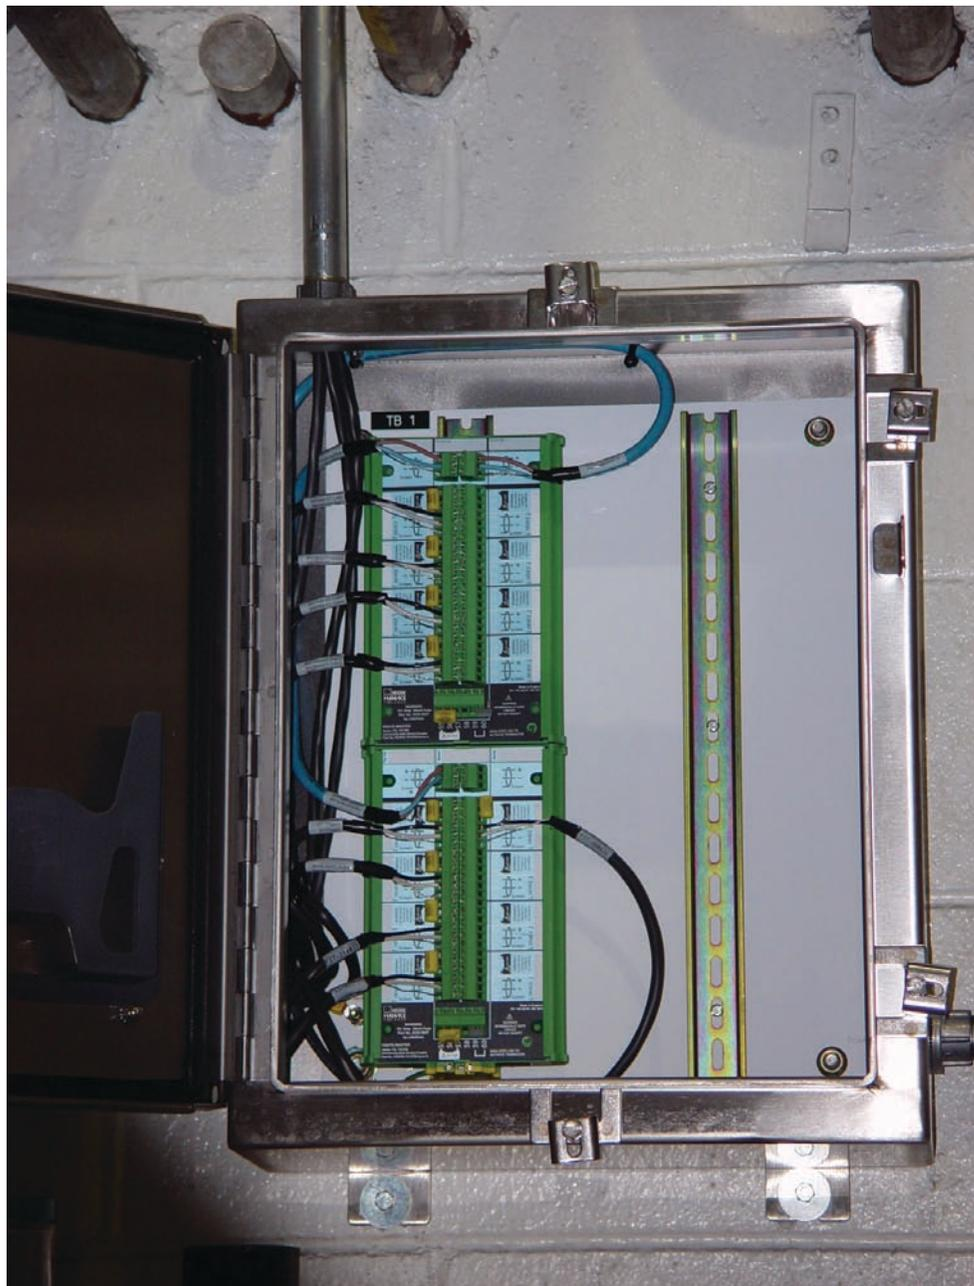
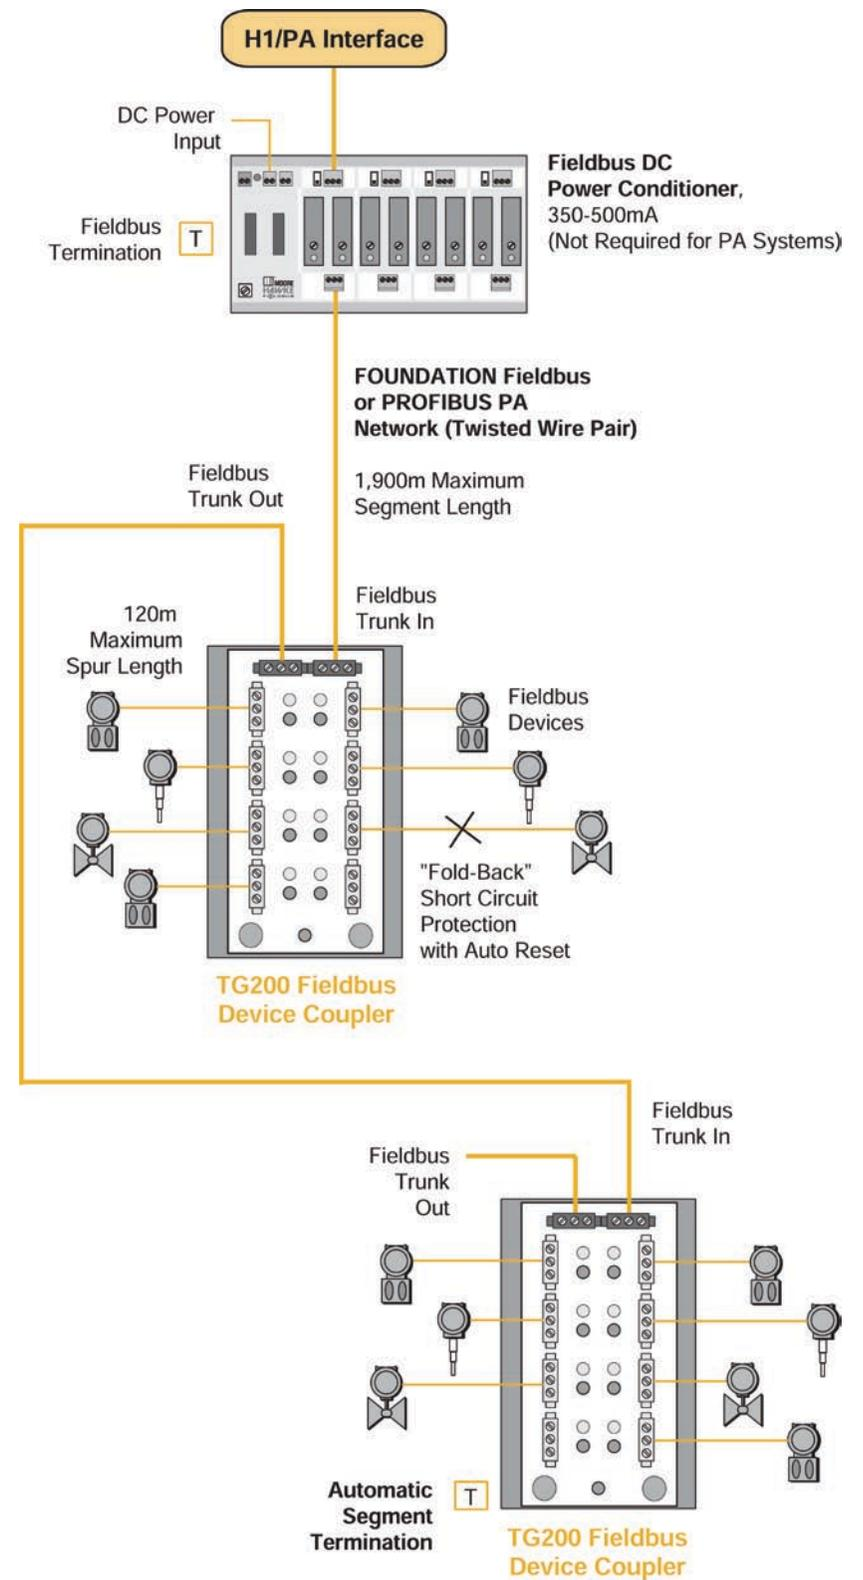

Figure 3: A device coupler provides short circuit protection on each spur. Some device couplers have automatic segment termination.
Figure 4: Terminators (square T boxes) must be turned on at the beginning and the end of each segment.
Most device couplers (Figure 3) use manual on/off DIP switches to terminate couplers. In a segment, the last device coupler should contain the terminator (Figure 4), and all couplers between the last coupler and the HI card should have their terminator switches set to off. Diagnosing the problem often requires physically examining each device coupler to determine if the switches are set properly throughout the segment.
One way to provide redundancy is to duplicate the entire segment (Figure 3). This requires a duplicate interface card (such as an H1 card for FF), a
Figure 3: One type of redundant fieldbus segment requires duplication of every component, from H1 cards to field instruments. If one segment fails, the DCS switches to the second segment.
An alternative method is to use a fault-tolerant segment with parallel interface cards, parallel power conditioners, dual trunks and one field device coupler (Figure 4). This eliminates the need to duplicate field instruments and avoids difficult maintenance issues, while still improving the segment MTTF by between 7 and 10 times, at virtually no extra cost. The power conditioners determine when a cable break occurs, cut power to the failed trunk, and use the backup cable immediately. This “fault-tolerant” approach simplifies installation, because it does not require any special programming of the DCS.
**Figure 4:** A fault-tolerant fieldbus system has two segments. If a fault occurs in one leg of the system, it automatically uses the other leg. It is not necessary to duplicate the field instruments.